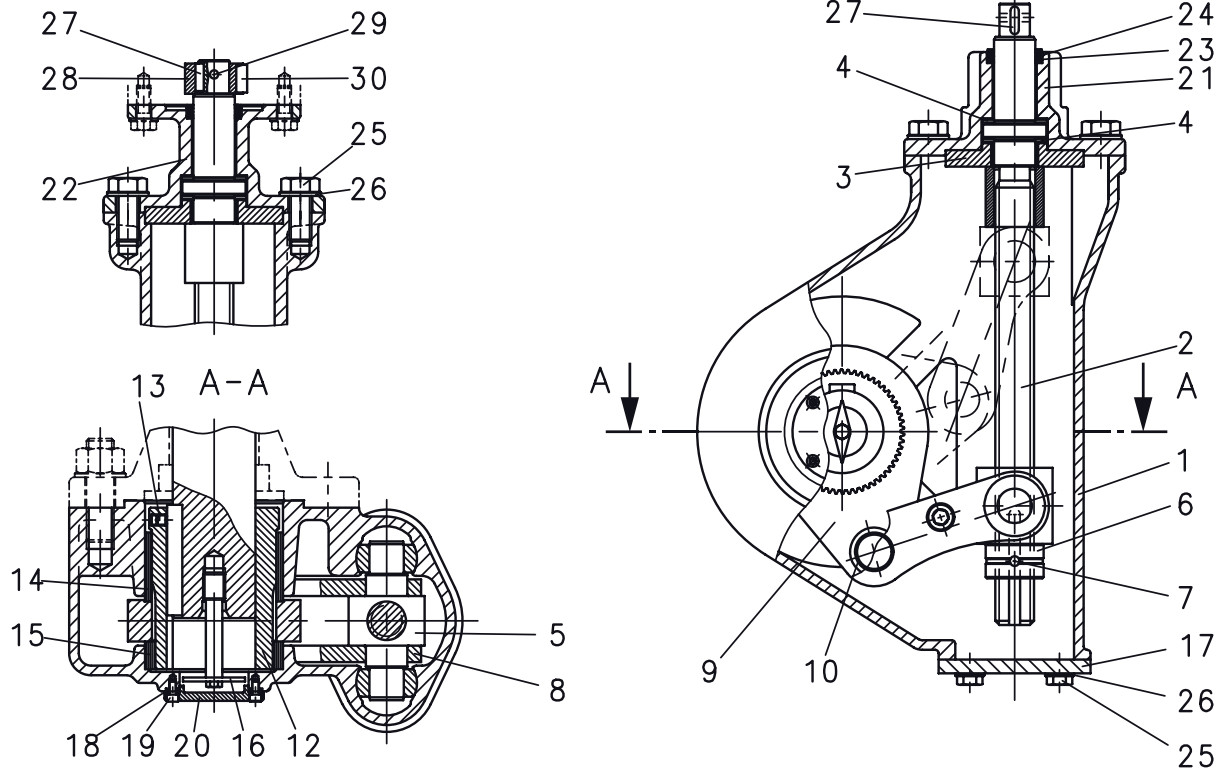

Figure 4: Sectional drawing of slider-crank mechanism SKG
- **Design (Figure 4):** Attachable quarter-turn gearbox according to the slider-crank principle. The rotation of the stem (2) is changed into a swinging movement of the gearbox crank by means of the stem nut (5) and the gearbox bracket (8) (articulated lever). The gearbox crank is rigidly connected to the valve shaft by means of the output shaft. The slider-crank mechanism is irreversible.
- **Limit Stops:** Solid stop nut (6) on the stem (2). "CLOSED" position is adjustable. Exceeding load will be absorbed by the stem and does not affect the case components of the gearbox. Maximum input torque : 450 Nm (in the limit positions).
- **Position Indicator:** The indicator which is directly connected to the valve shaft is visible through a sight glass on the gearbox case. The sight glass is made of impact resistant polycarbonate (PC) and thus suitable for plant, pit and underground installation.
11.4 Setting the Limit Stop ("CLOSED" Position) (Fig. 4)
- Remove cover (17) and gasket (18) by loosening the cylindrical screws (19).
- Raise the retention pin (7) of the stem nut (6) by means of a slotted screwdriver pressing the screwdriver into the groove provided for this purpose between stop nut and annular spring.
- Mount cover (17)